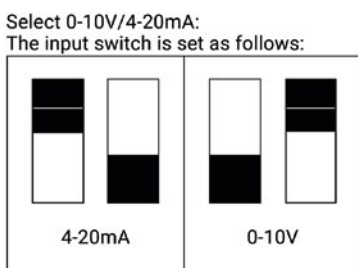

Figure 1
- (2) Channel selector: You turn the switch until it is on the channel you want to set.
- (3) Input selector: Here you switch between 0–10 V and 4–20 mA signal. (see Fig 1)
The setting, how the adjust the switches to the desired result can be seen in figure 1